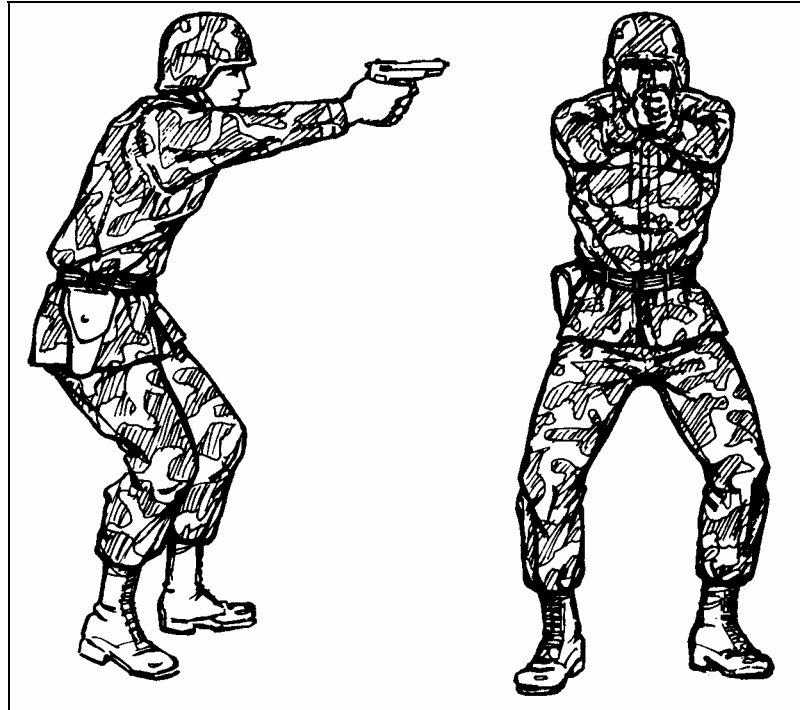

Figure 2-11. Crouch position.
d. **Crouch Position.** Use the crouch position when surprise targets are engaged at close range (Figure 2-11). Place the body in a forward crouch (boxer's stance) with the knees bent slightly and trunk bent forward from the hips to give faster recovery from recoil. Place the feet naturally in a position that allows another step toward the target. Extend the weapon straight toward the target, and lock the wrist and elbow of the firing arm. It is important to consistently train with this position, since the body will automatically crouch under conditions of stress such as combat. It is also a faster position from which to change direction of fire.